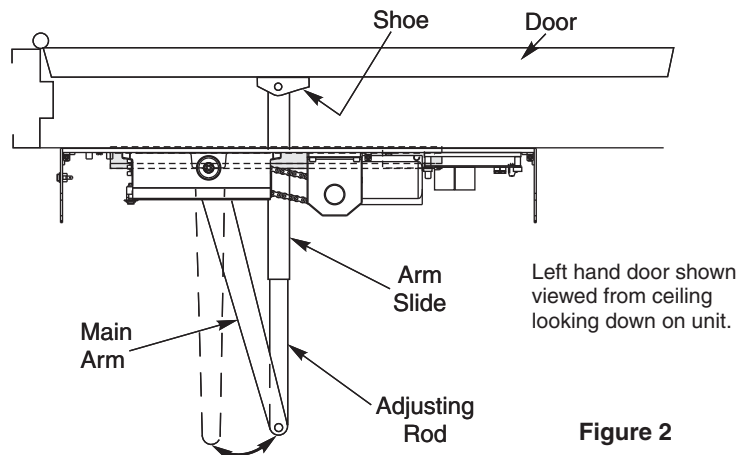

**Figure 1**
**Step 5:** Install main arm onto pinion shaft of unit at a 90° angle to the door frame. Align arm mark "S" with the flat corner of the pinion shaft square. (See Fig. 1, upper right.)